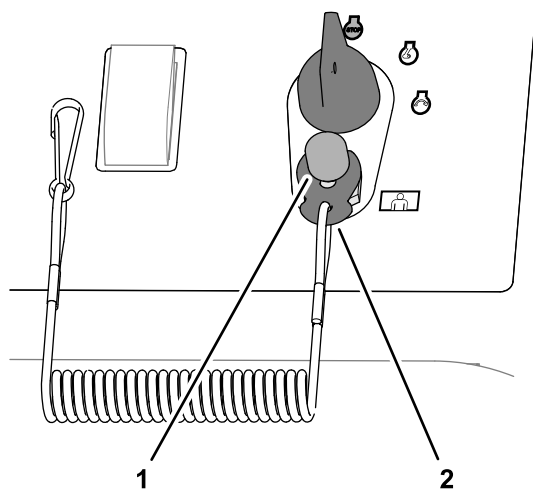

Figure 15
2. Ensure that the plastic lanyard clip is inserted into the presence-control switch (Figure 15).